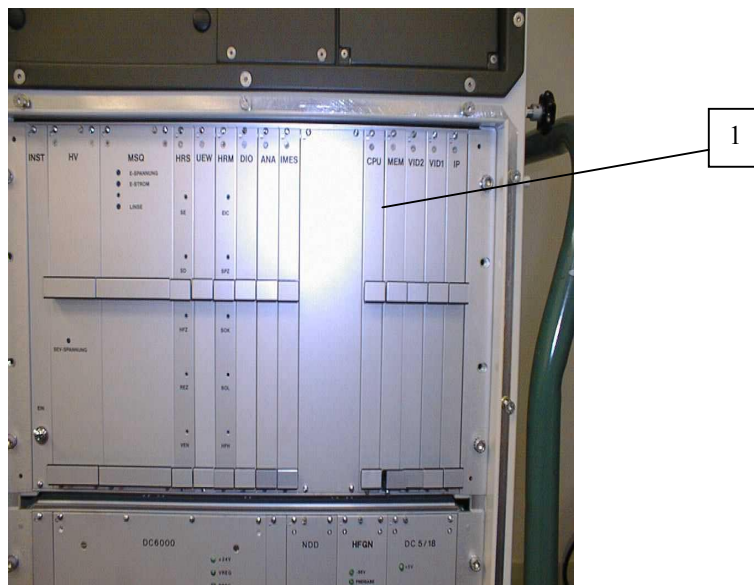

Fig.16 The <MEM> card properly fit into the housing
- (9) Carefully screw the two fastening screws of the <MEM> card into the housing. Make sure the card is fit snugly into the housing (Fig.16 No.1).